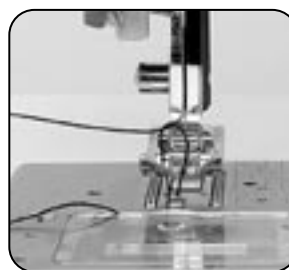

Fig. 1
3. Gently pull up on the needle thread [Fig. 1]. The bobbin thread, looped around the needle thread, will be drawn up through the needle hole.